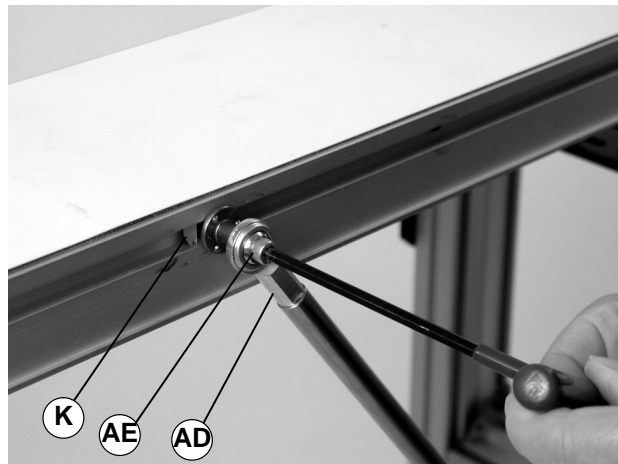

Figure 12
- b. Attach the diagonal brace end (AD of Figure 12) to the t-bar (K) with a socket screw (AE).
<h2 style="margin: 0;">WARNING</h2> <p style="margin: 0;">Failure to secure screw (AE of Figure 12) may cause conveyor sections to drop down causing severe injury.</p> <p style="margin: 0;">TIGHTEN SCREW (AE) AFTER ADJUSTMENT.</p>
- c. Tighten screw (AE of Figure 12) to 100 in-lb (11 N-m).